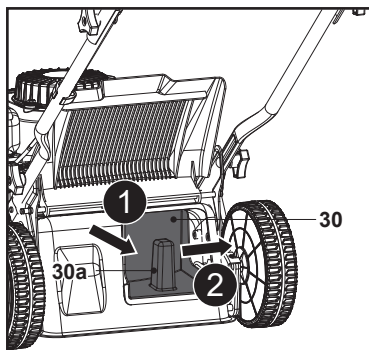

Fig. 16
2. Squeeze the mulching insert handle (30a) to release the locking latch (30b) from the rear discharge chute slot (28a), then remove the mulching insert (30) (Fig. 16).